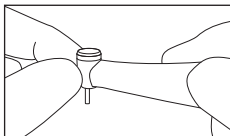

Fig. 5
- 5) After the handpiece rotation has completely stopped, touch the handpiece head to confirm the head is NOT heating abnormally (Fig. 5).